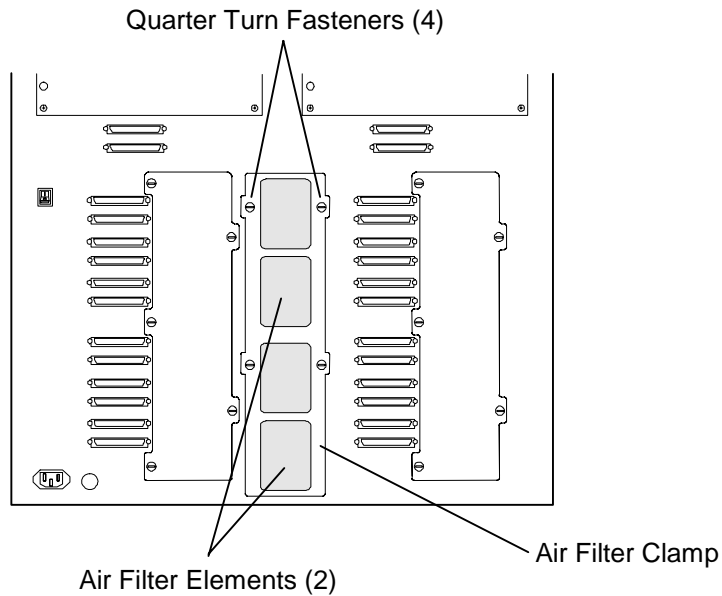
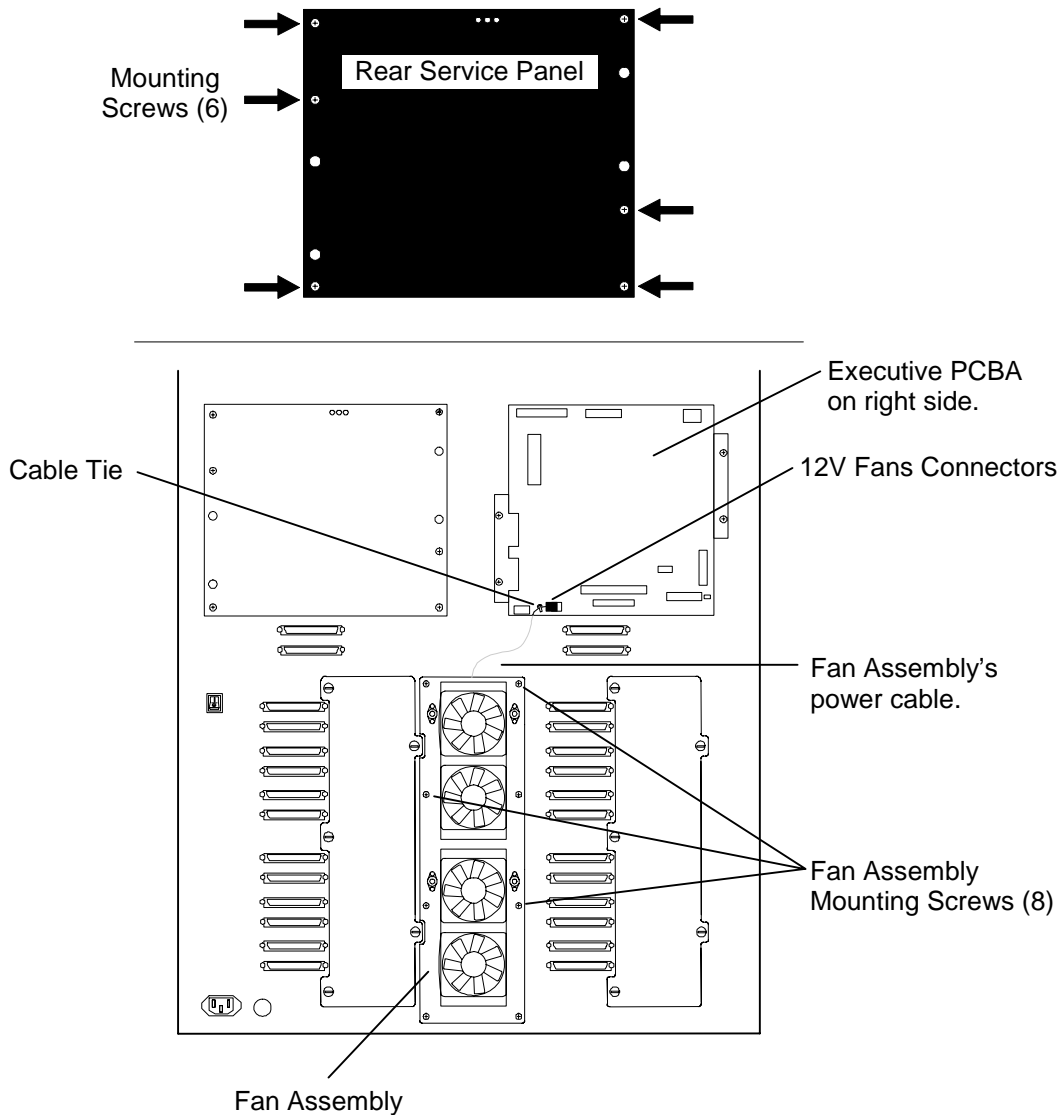

Figure 7-18 Rear View of TLS
Figure 7-19 Fan Assembly at Rear of Library
Refer to **Figure 7-18**.
Refer to Figure 7-18 and Figure 7-19.
Refer to **Figure 7-18** and **Figure 7-19**.
9. Replace the Air Filter Clamp and secure it by turning the four quarter-turn fasteners clockwise. See Figure 7-18.
4. On the rear of the library, use a flat blade screwdriver to turn the four quarter-turn fasteners on the Air Filter Clamp counter-clockwise. See Figure 7-18.
13. Replace the Air Filter Clamp and secure it by turning the four quarter-turn fasteners clockwise. See Figure 7-18.